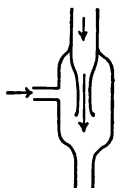

FIG. 48. — Aspirator.
59. Aspirator. Laboratory apparatus is often evacuated by the use of an aspirator, or suction pump. The aspirator, which is shown in diagram in Fig. 48, is screwed to a water faucet. As a current of water flows rapidly through the inner tube, it drags along with it the air molecules from the vessel to be exhausted. Quite a good vacuum can be produced in this way.